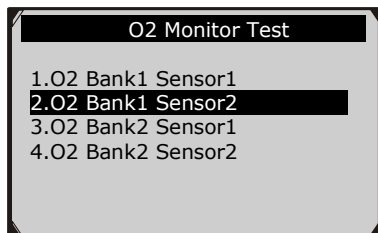

Figure 6.24
- 3) Use the **UP/DOWN** scroll button to select O2 sensor from **O2 Monitor Test** menu and press **OK** button (Figure 6.24).